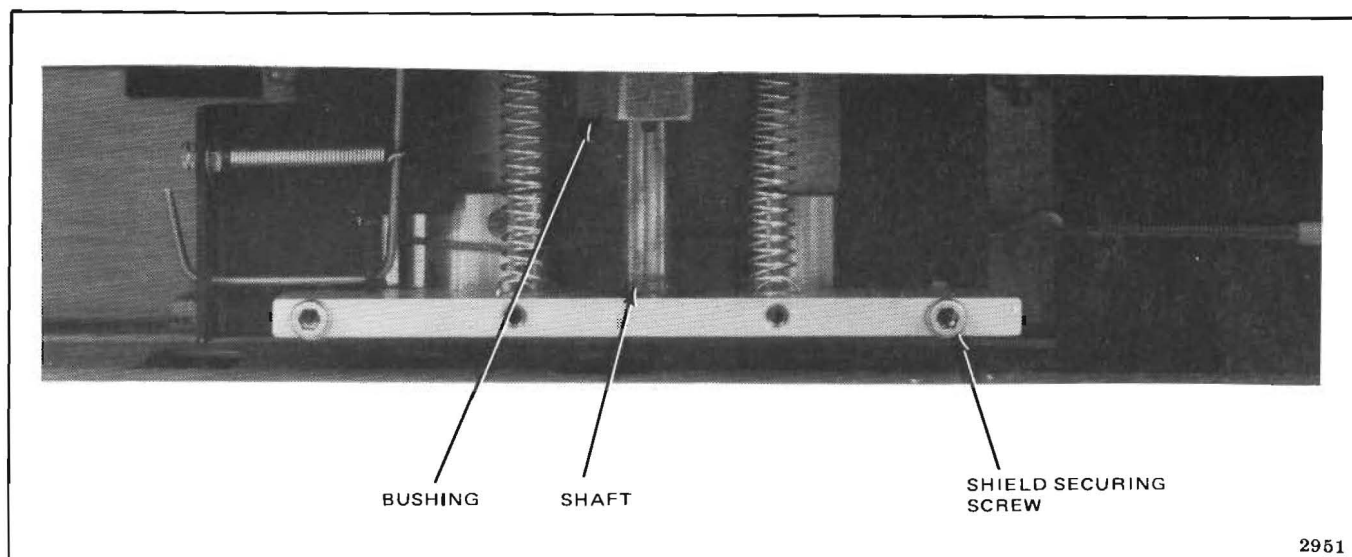

Figure 5-31. Head Gate in Latched (Down) Position, Front View of Transport
2. If required, loosen shield-securing screw shown in Figure 5-31 and slightly raise or lower right-hand side of shield (as viewed from the front of recorder/reproducer) to align head gate shield with head shield. Tighten screw.